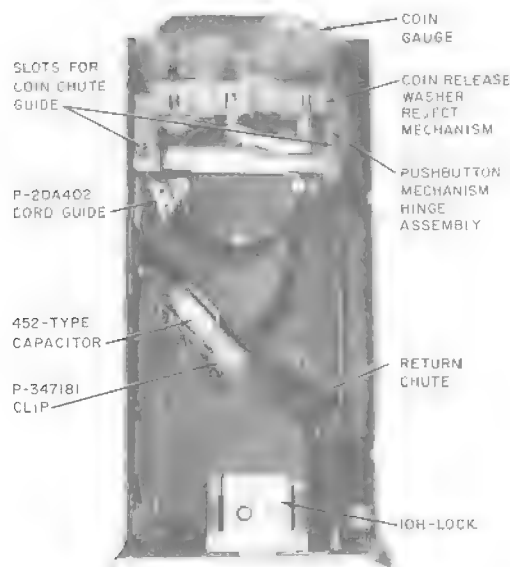

Fig. 10—Upper Housing, Coin Chute Assembly Removed
2.17 Coin collectors using coin chute assemblies equipped with a P-349754 gong assembly have the 452-type capacitor associated with an electromagnet. It mounts on the upper housing underneath the coin chute with a P-347181 clip (Fig. 10).